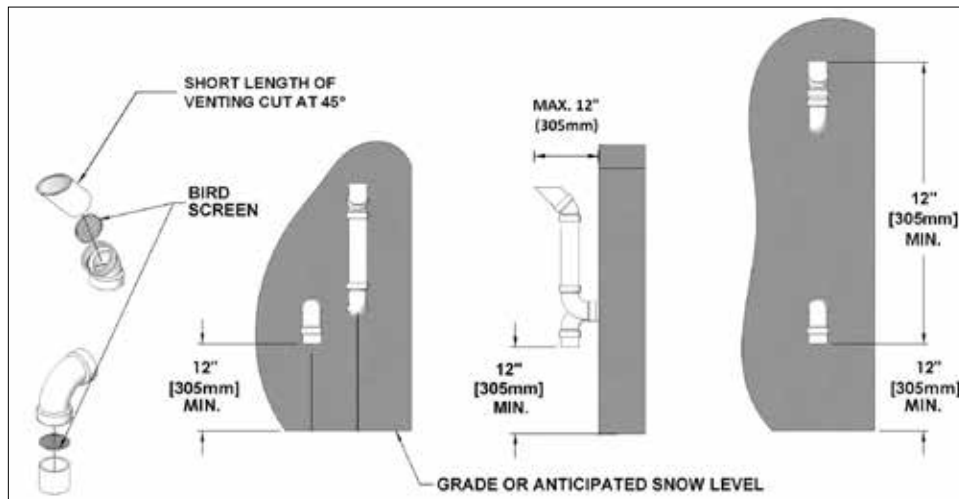

Figure 12: Sidewall vent termination
It is extremely important to maintain at least the minimum separation of exhaust vent termination from boiler intake air as illustrated in figures 12 and 13. Failure to do so can result in a dangerous situation where exhaust gasses are re-ingested with combustion air. Damage to the boiler can result from a failure to maintain these separations. Third party vent termination kits and concentric wall penetration kits that do not maintain these minimum separations shall **NOT** be used. Improper installation will void the warranty. Do not use proprietary *InnoFlue* or *PolyPro* PPs terminals available without specific approval from IBC.
- The elevation of both terminations can be raised in "periscope style" after passing through the wall, then configured as in Figure 12 to gain the required clearance.